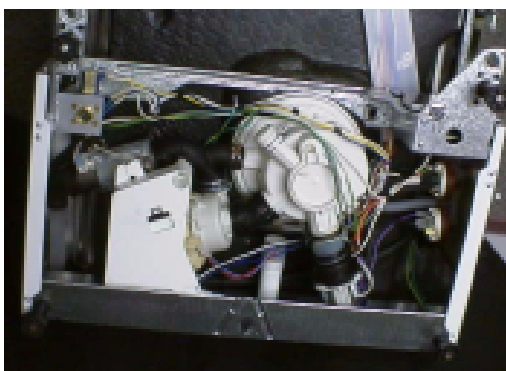

Figure 35
7. Lay dishwasher on its back on a protective pad. Remove screws that attach the cabinet to bottom of frame. (See Figure 35)